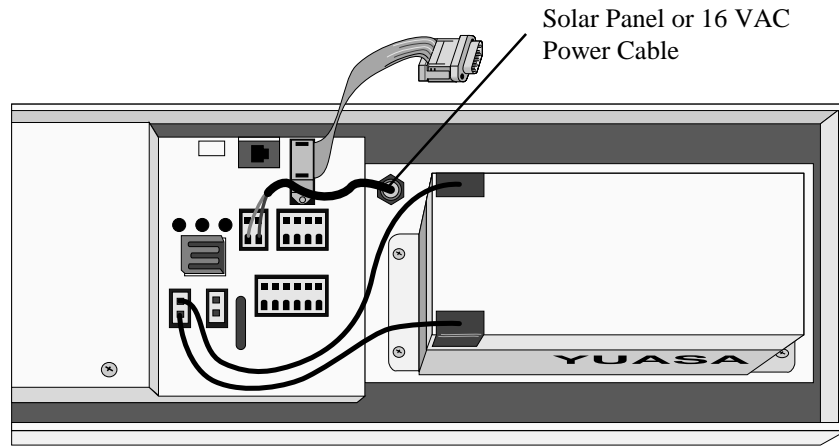

FIGURE 3.1-1. Rechargeable Power Mounting and Connections
- a) Sealed Rechargeable Battery Option: Install the kit as shown in Figure 3.1-1. An unregulated solar panel or 17 to 24 VAC must be used with the rechargeable battery at all times. In either case, power is routed through the Heyco fitting on the enclosure back and connected to the CHG ports by depressing connector levers. Polarity of the CHG connection does not matter. Install the rechargeable battery and plug the battery lead into the connector labeled “LA”.